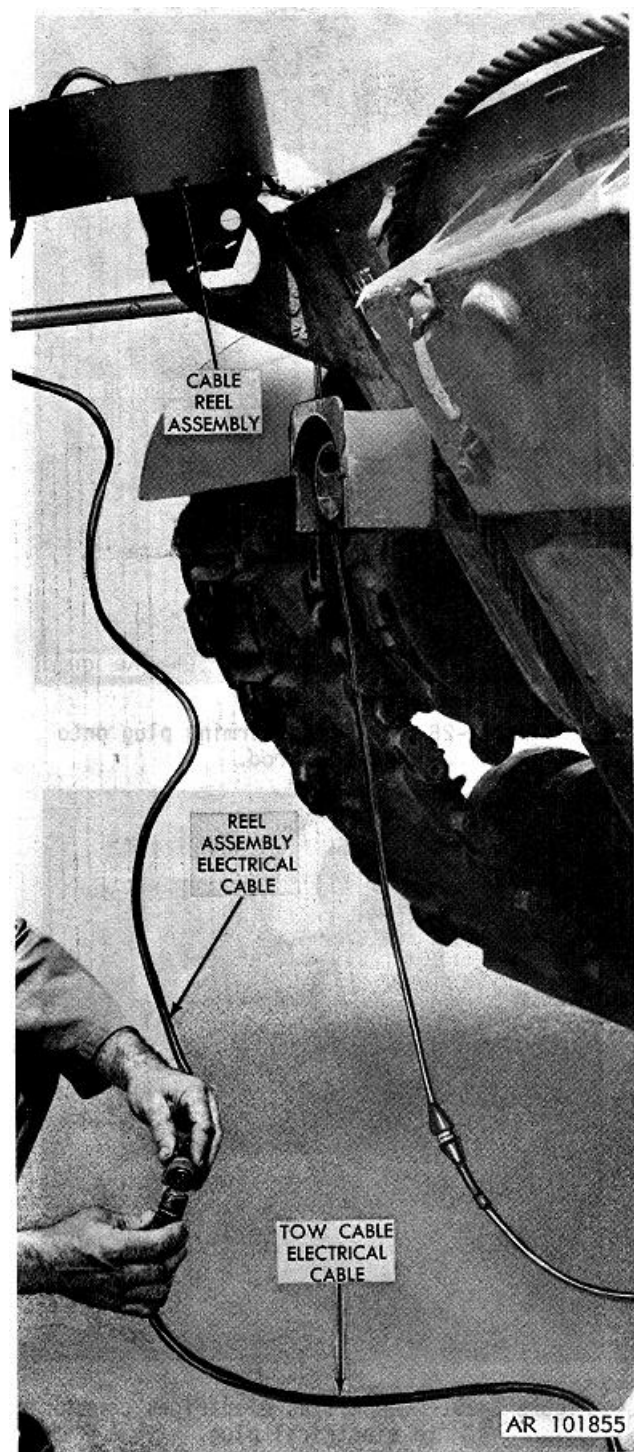

Figure 2-24. Connecting tow cable electrical cable to reel assembly electrical cable.
l. Connect the yellow connectors, one from vehicle end of tow cable electrical cable and the other from cable reel assembly (fig. 2-24).